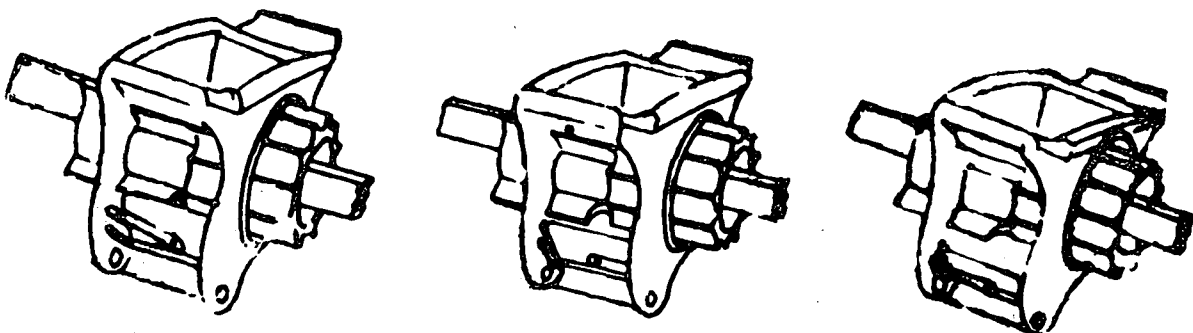

Fig. 5
In this manner the flow of seeds can be controlled by changing the length of the exposed surface of the roller and therefore of the blanking plate. Most of the machines with fluted feeders have adjustable feed gates (Fig. 5) at the lower part of the cup. This is a means of adjusting the size of the outlet.
- By adjusting the feed gates to one of the three positions (Fig. 5).